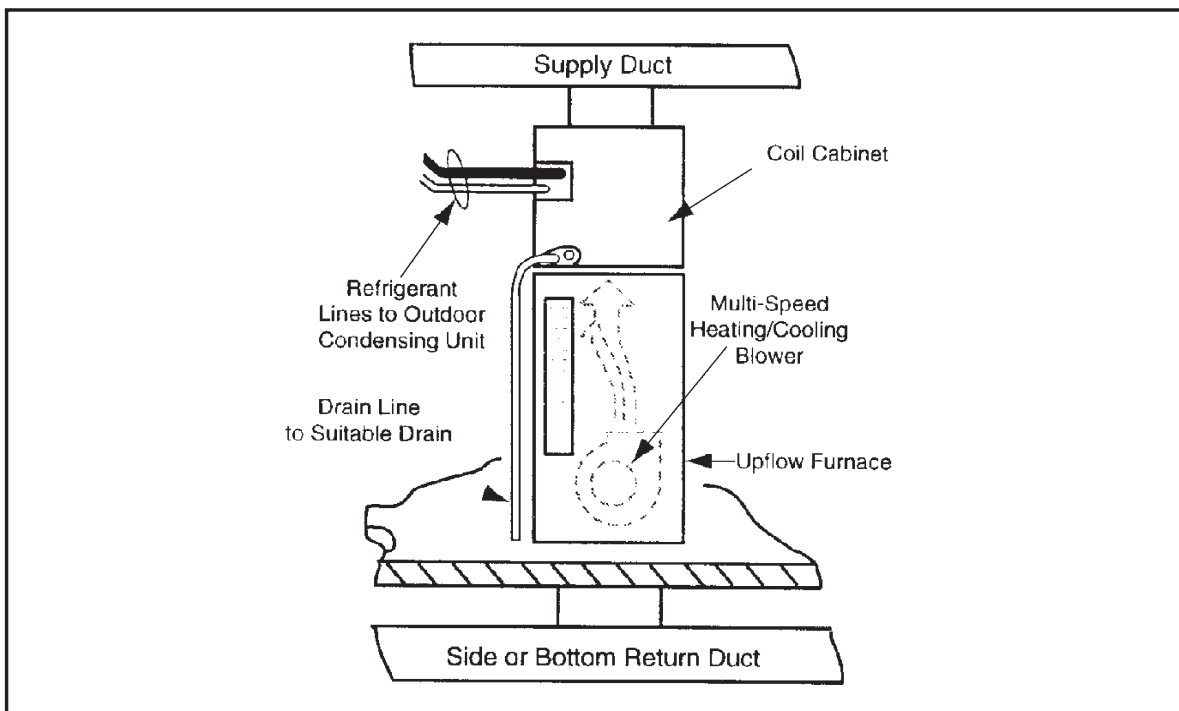

Figure 2.
4. Make a plenum to enclose the coil or drop the duct directly over it. Insulate as required. **(See Figure 2)**